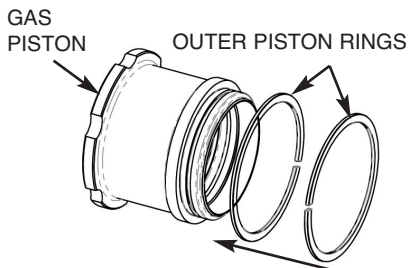

Figure 18A
1. Slide the two outer piston rings onto the piston. Orient the slots 180 degrees apart as shown in Figure 18A.